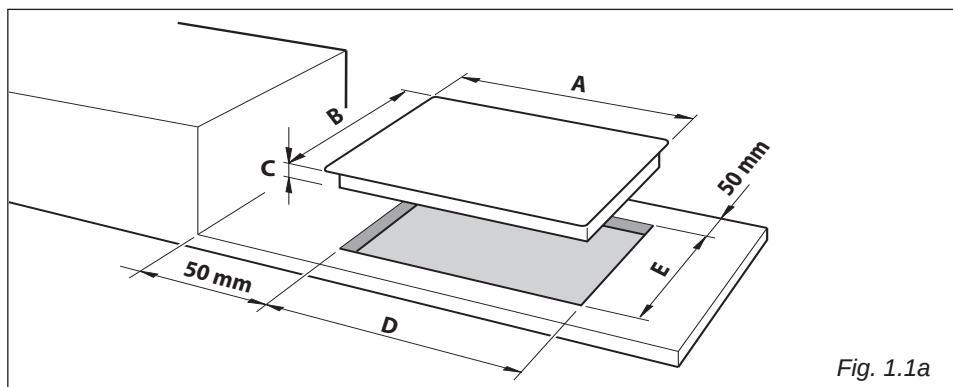

Fig. 1.1a
This cooktop can be built into a working surface from 20 mm thick and 600 mm deep. In order to install the ceramic hob into the kitchen fixture, a hole with the dimensions shown in figures 1.1a or 1.1b has to be made, keeping in consideration the following:
- Cut the unit according to the dimensions in fig. 1.1a or 1.1b.